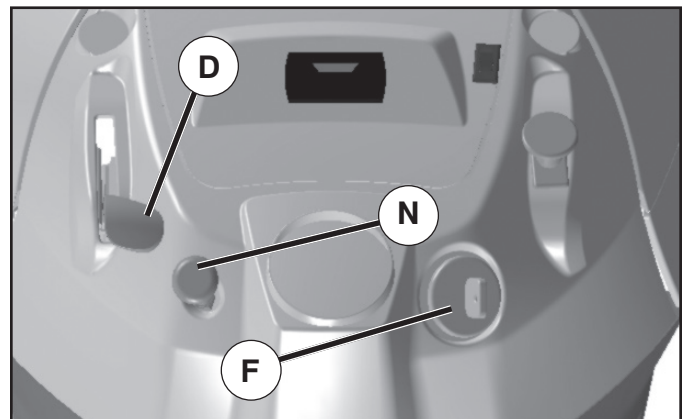

Fig. 18
TO USE THROTTLE CONTROL (D) (See Fig. 18)
TO USE CHOKE CONTROL (N) (See Fig. 18)